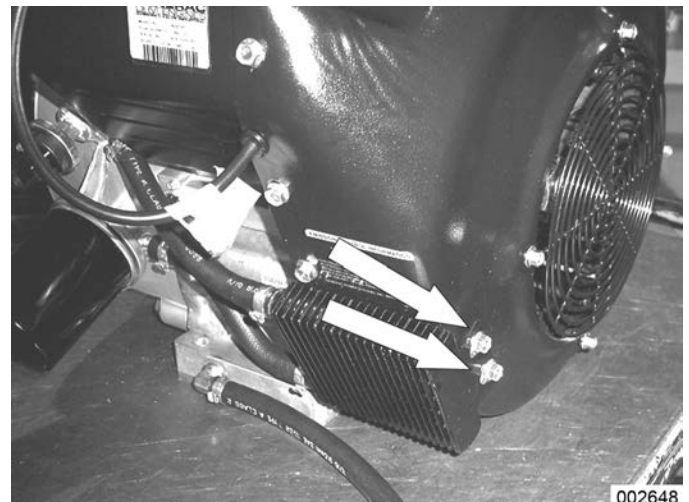

Figure 6-14.
15. **Unbolt Oil Cooler:** See Figure 6-14. Use a 10mm socket to remove the two 10mm bolts from the front of the oil cooler.